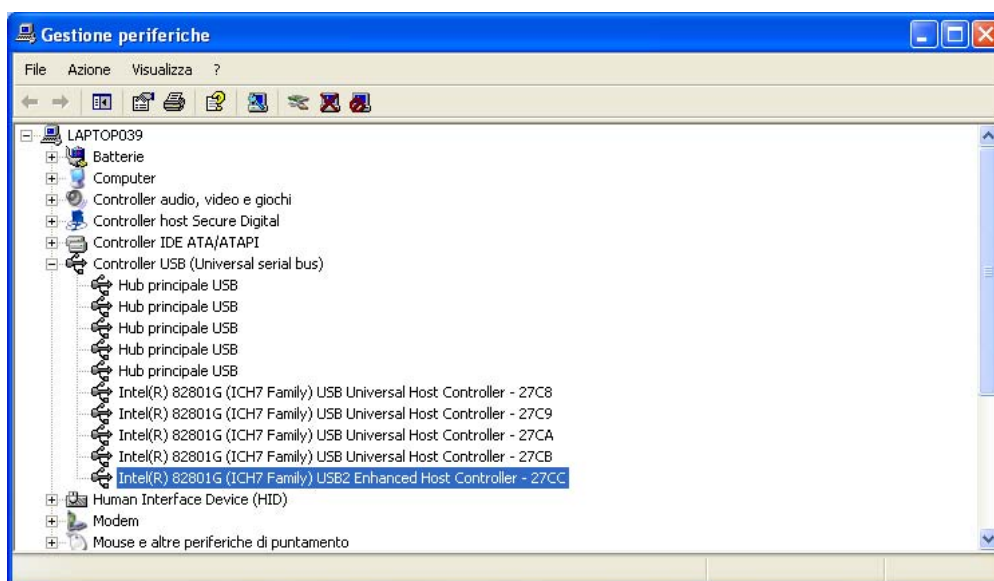

Figure 2: Device Manager controller USB.
- The computer must support USB 2.0 connection. In order to execute the check, verify the presence of the wording “USB2 EHC” or “USB2 Enhanced Host Controller” in the settings of the USB controller (START>CONTROL PANEL>SYSTEM select from hardware menu DEVICE MANAGER>CONTROLLER USB per WINDOWS® XP; START>CONTROL PANEL>SYSTEM>DEVICE MANAGER per WINDOWS® VISTA, WINDOWS® 7 and WINDOWS® 8) like figure 2.